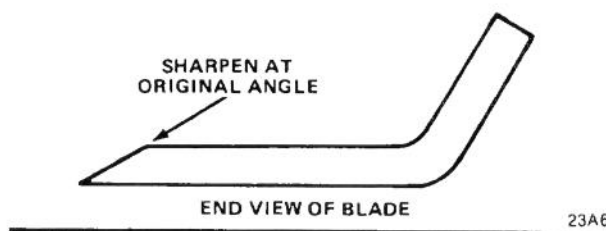

Figure 28
5. Using a file, sharpen cutting edge at both ends of the blade (Fig. 28).
IMPORTANT: Sharpen top side of blade and maintain original cutting angle to assure a sharp cutting edge (Fig. 28). The blade will remain balanced if same amount of material is removed from both cutting edges.